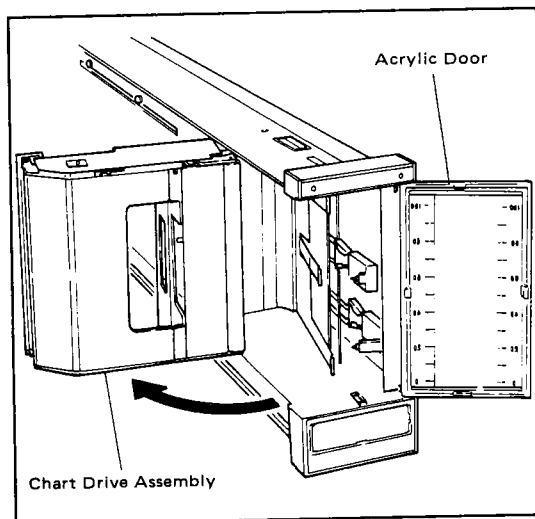

Figure 5-7. Pushing Out the Chart Drive Assembly.
- (1) Pull the internal unit out from the housing until it locks at an intermediate position.
- (2) Open the acrylic front door and push the chart drive assembly out from the left. (See Figure 5-7).